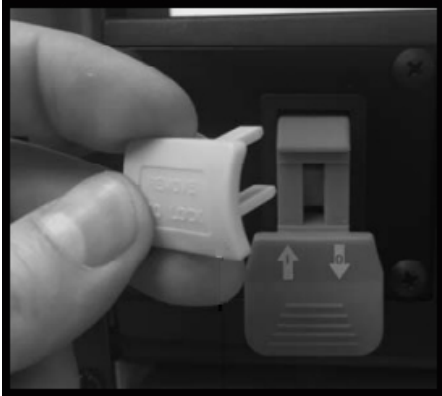

Figure 41
7. Remove the switch-disabling key, as in (Fig.41)